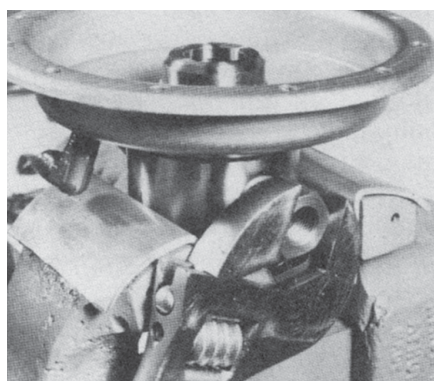
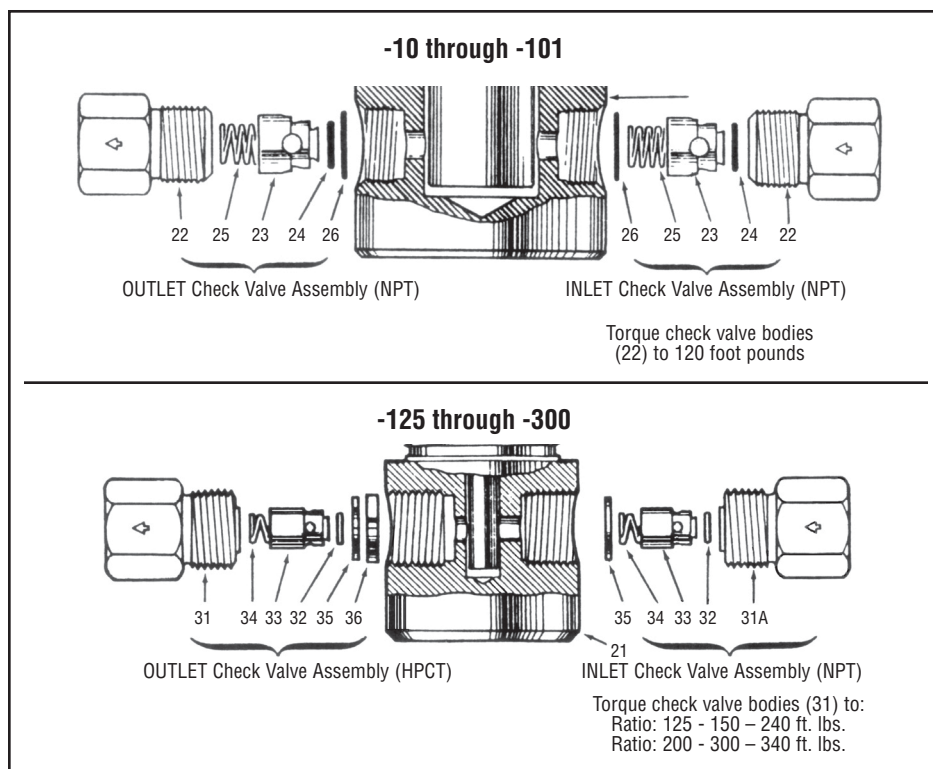

Figure 4-14 Removing check valves from fluid body.
Figure 7-2 Inlet and outlet check valves, sequence of assembly.
- 4.12 Using adjustable wrench, remove the inlet check valve assembly from the fluid body port. See Figure 4-14. Note the sequence of parts removal and the position of poppet. See Figure 7-2. Wipe surplus fluid from the inside port.
7.2 Reassemble and install inlet and outlet check valves into fluid body (21). See Figure 7-1. Note order of assembly and position of poppets (23 and 33) by referring to Figure 7-2. Note torque instructions in illustrations. DO NOT over-torque valve bodies (22 or 31) and be careful to avoid crossing threads when installing check valve bodies. On completion, remove from vise.